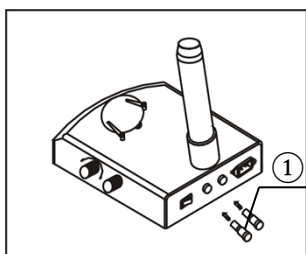

Fig. 9
- 1) Turn the adjustable light knob according to the sign marked on the base, along the clockwise the brightness will be increased, otherwise it will be weakened. (Fig.9)
- 1) Screw the fuse tube out with a screwdriver and pull the fuse out of the tube ①.
- 2) Remove the fuse and mount it in an adverse way.(Fig. 9)